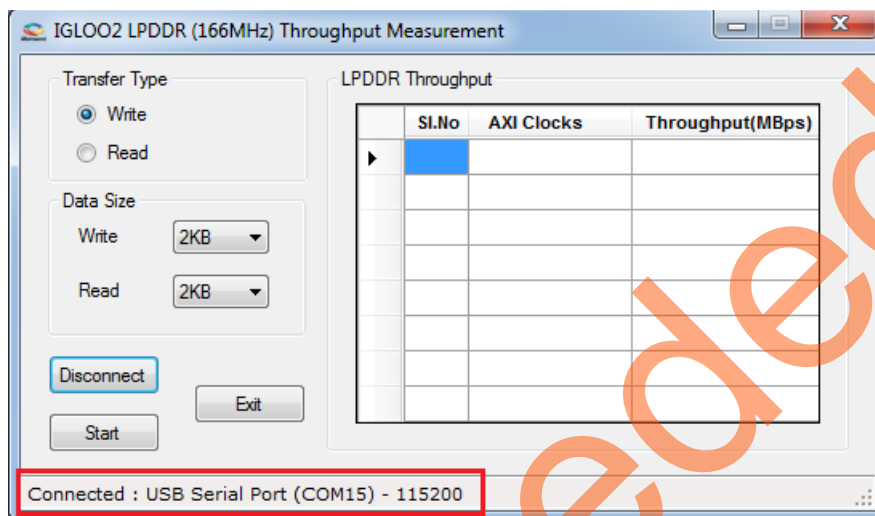

Figure 35 • IGL2_LPDDR_BW Connection Status
2. Click **Connect** and wait for few seconds to connect the proper FDTI COM port. The connection status along with the COM Port and Baud rate is shown in the left bottom corner of the screen. Figure 35 shows the connection status of the utility.